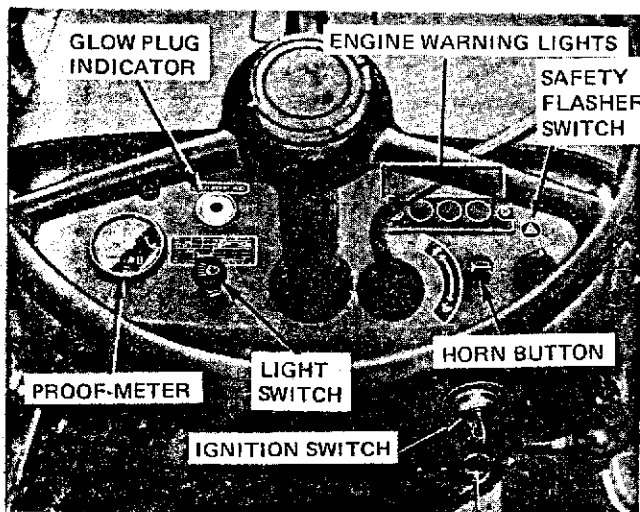

Figure 4 — Instrument Panel
The light switch, shown in Figure 4, is a push-pull type switch. Its positions are:
The starter switch is shown in Figure 4. Turning the key to the left will activate the cold start aid. Turning the key to the right to the "on" position will activate the warning lights and instruments. Turning the key further right to the "start" position will start the engine. Upon release, the key will spring return to the "on" position.
The engine temperature, oil pressure and charge indicator warning lights are located as shown in Figure 4. When the starter switch is turned "on" the oil pressure and charge lights come on. After the engine has been started, the lights should go out within a few seconds. If they do not go out:
The Proof-Meter is located on the left side of the instrument panel, Figure 4. The Proof-Meter indicates:
- Engine revolutions per minute are indicated on a common scale as shown in Figure 4. Use the engine revolutions per minute scale when operating PTO-driven equipment. PTO-driven equipment must be operated at an engine speed not to exceed 2422 rpm, as shown by the PTO symbol on the rpm scale. Additional information on PTO operation can be found on page 00. Ground speeds are indicated on a decal attached to the instrument panel. It shows ground speeds for 3rd, 6th, 9th, 12th, and R2 gears with engine speeds from 1500-2500 rpm. Additional ground speed information can be found on page 41.